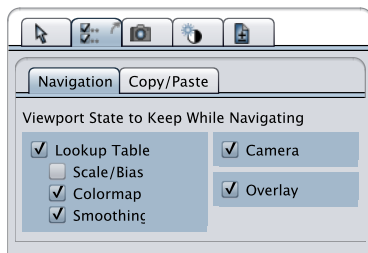

Figure 1.114: Viewport State Tool
- The Viewport State tool opens, see [Figure 1.114 \[▶ 141\]](#).